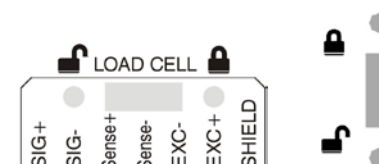

Figure 3.1.1
- Metrological parameters: These parameters affect directly the calibration counter, in the schemes are accompanied by the  $\textcircled{P}$  symbol. To be able to modify these parameters it is necessary to set the correct PIN number and the calibration switch (see figure 3.1.1) should be in the unlock position when getting into the configuration menu.